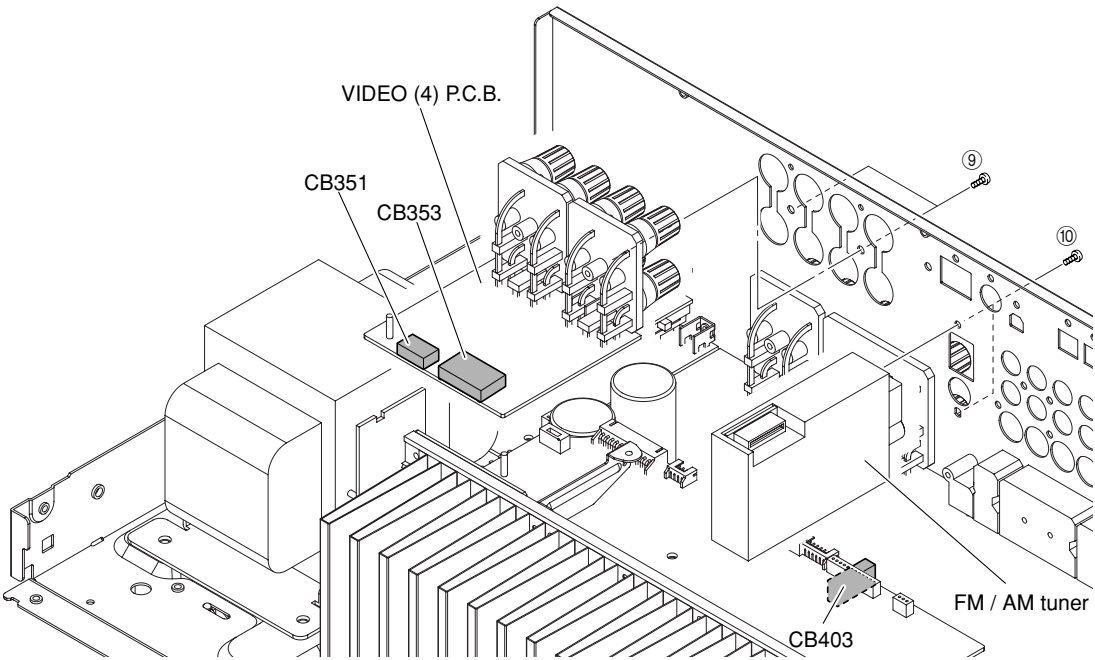

Fig. 4
5. Removal of VIDEO (4) P.C.B.
- a. Remove 2 screws (⑨). (Fig. 4)
- b. Remove CB351 and CB353. (Fig. 4)
- c. Remove VIDEO (4) P.C.B. (Fig. 4)
- a. Remove 2 screws (⑩). (Fig. 4)
- b. Remove CB403. (Fig. 4)
- c. Remove FM/AM tuner. (Fig. 4)